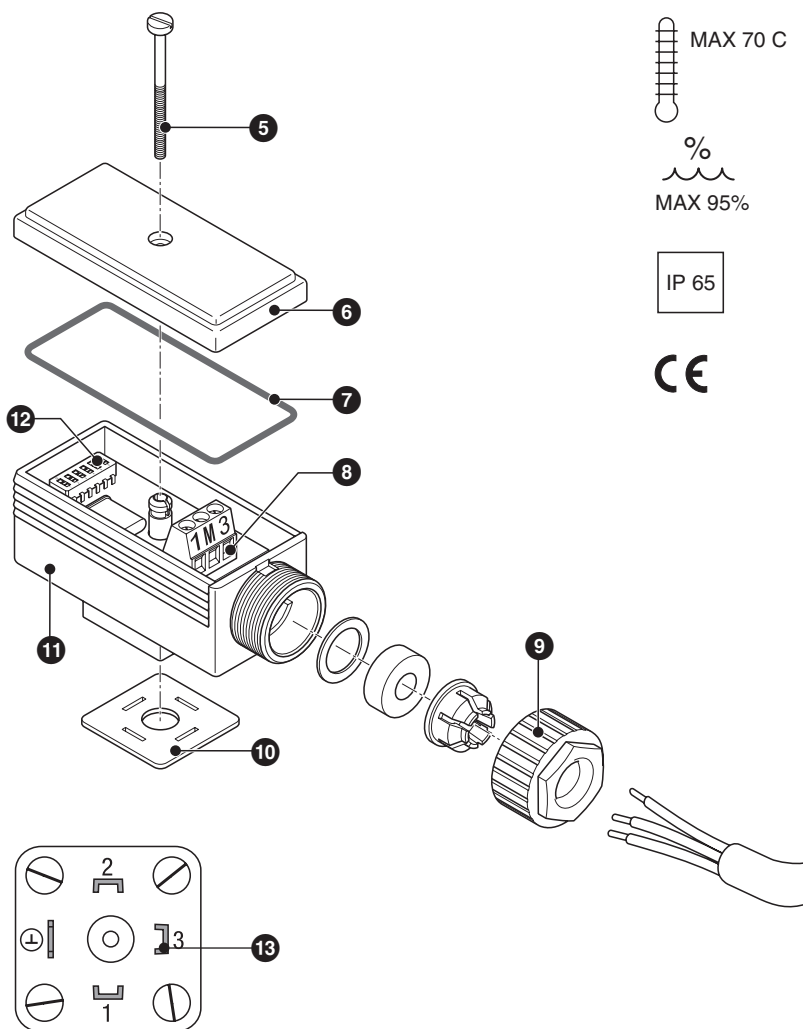
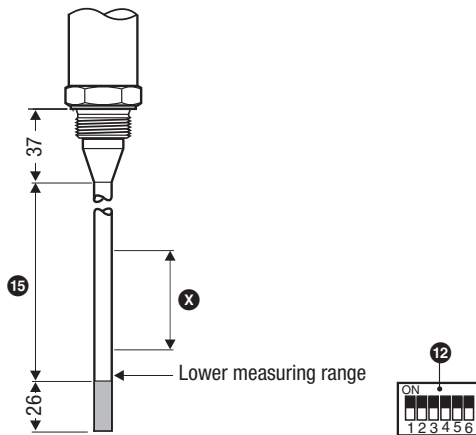

Fig. 5
Fig. 11
1. Undo screw ⑤, Fig. 5.
2. Take the terminal box off the level electrode, leaving the sealing plate ⑩ on the contact plate ⑬.
3. Remove cover ⑥ with seal ⑦.
4. Detach cable gland ⑨ from terminal box ⑪.
5. Run cable through cable gland ⑨ of the terminal box ⑪ and connect the terminals of the terminal strip ⑧ according to the wiring diagram.
6. Replace cover ⑥ and insert screw ⑤.
7. Put terminal box onto the level electrode and fix it firmly by tighten screw ⑤.
The default setting of the code switch 12 is the max. measuring range for water (conductivity $\geq 20 \mu\text{S}/\text{cm}$). The max. measuring range is the length 15 (distance between lower and upper measuring point) plus 26 mm, see Fig. 11.
A control range may be established within the measuring range of the electrode. Establish the length of the control range using the code switch 12, see Fig. 5, Fig. 11